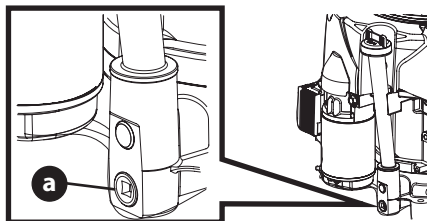

Figure 6
- Remove drain plug (a) and allow oil to drain into a suitable container (Figure 6).